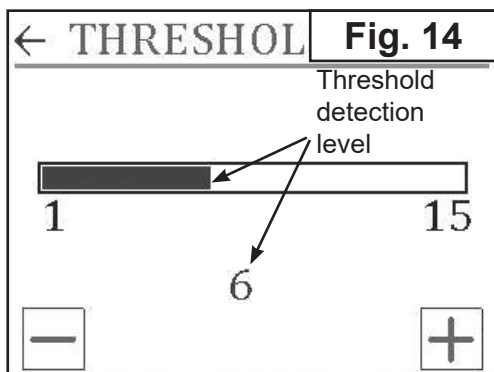

Fig. 14
3. Adjust threshold detection level by tapping **-** or **+** (Fig. 14). Tap **←** to apply settings.